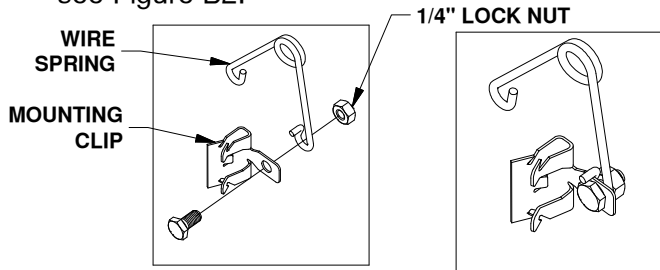

Figure B1:
- Assemble kit.** Locate the 1/4" cap screw and nut, along with the wire torsion spring and mounting clip. Pass the 1/4" cap screw through the mounting clip and the wire spring, as shown in Figure B1. Thread the 1/4" lock nut onto the 1/4" cap screw. Tighten the lock nut just enough that the spring will stay in place but will still be able to rotate around the bolt if needed, see Figure B2.